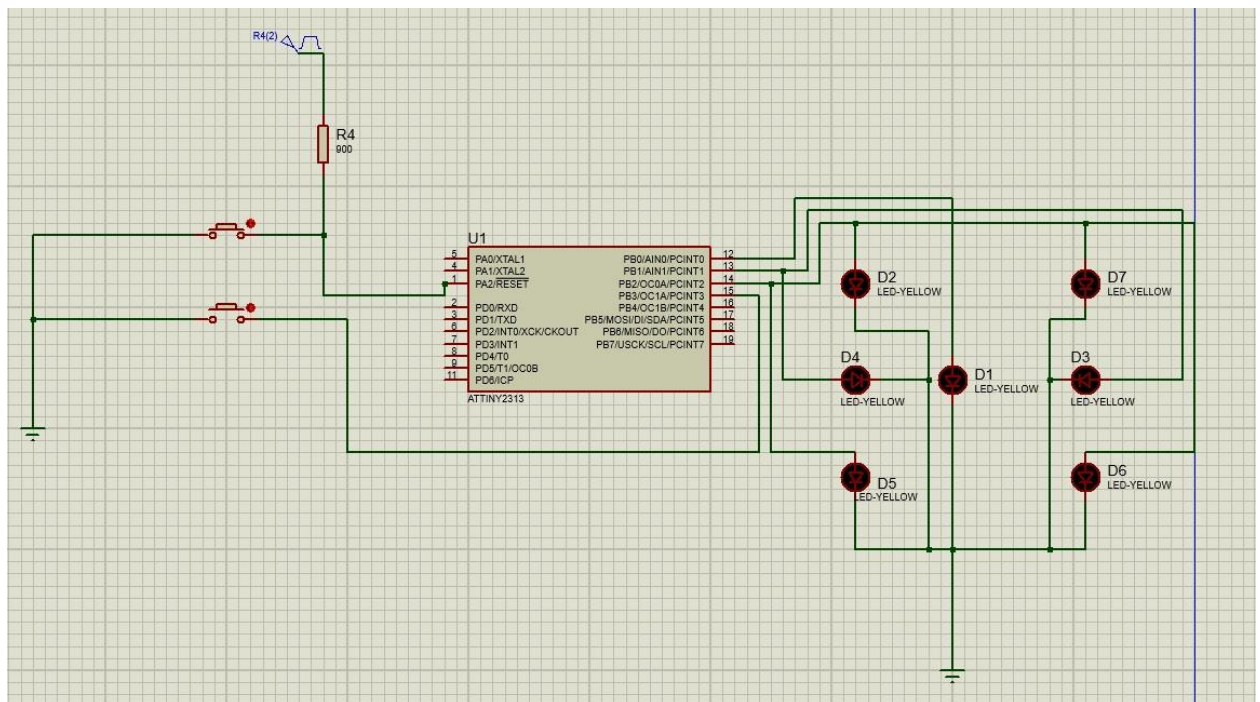

FIGURE 1: Show Proteus simulator circuit of Electronic Dice using ATtiny2313
- Arrange 7 LEDs in standard dice pattern (Figure 1,2,3 in document)